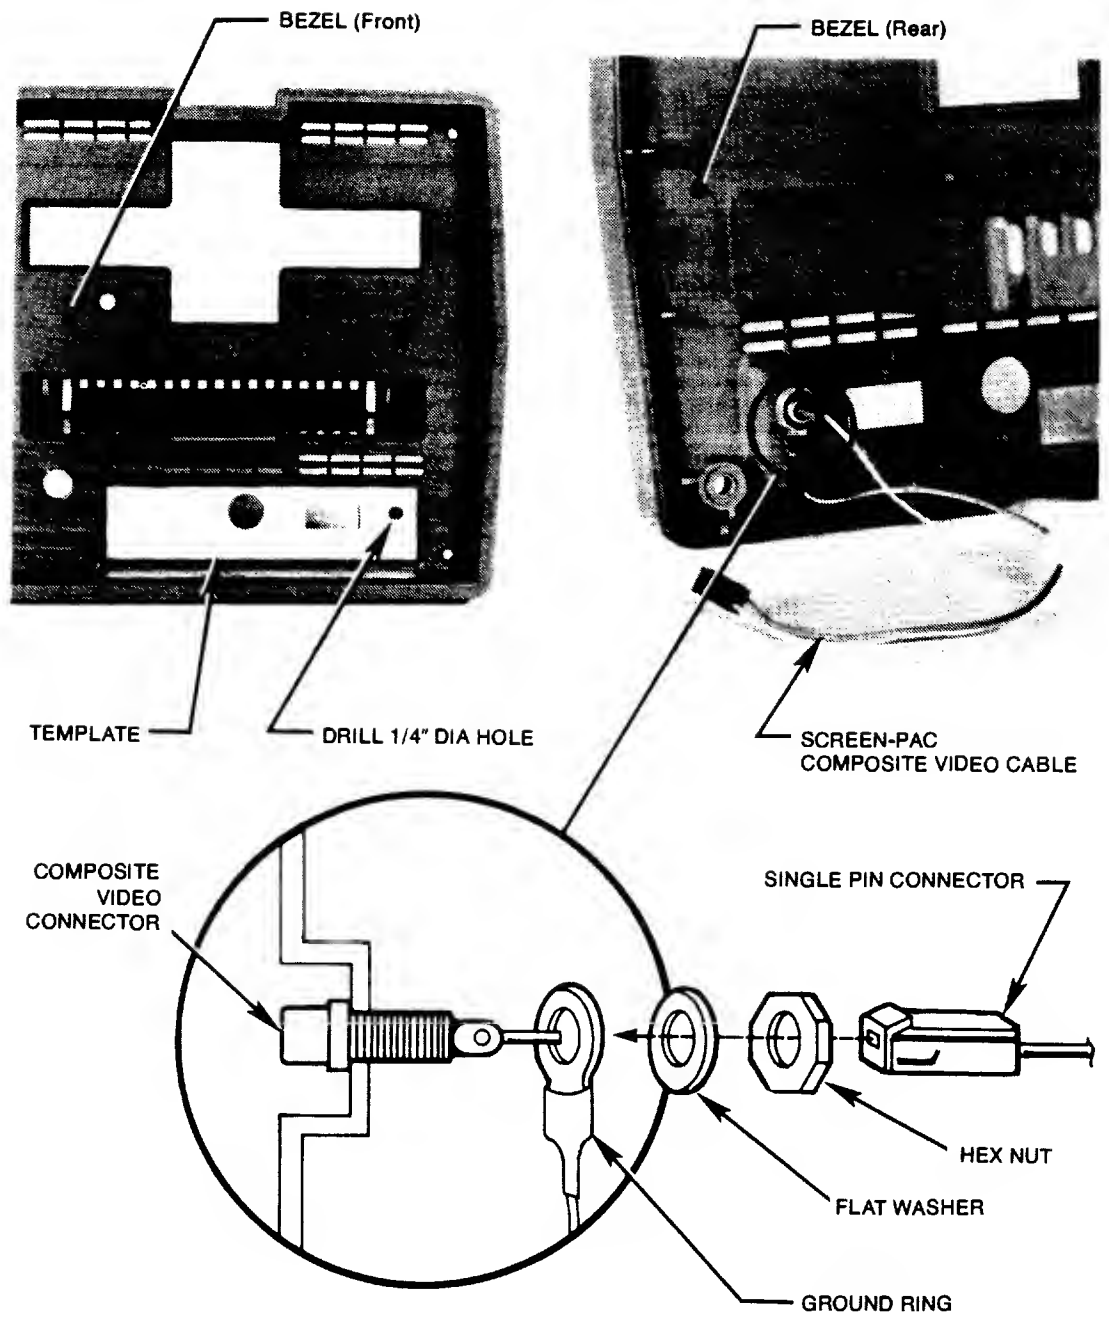

FIGURE 6-34. RCA CONNECTOR INSTALLATION
The RCA connector includes a ground ring, washer, and 7/16-inch nut to secure it to the chassis bezel (Figure 6-34).
- 6.12.4.4 The RCA video cable has two wires. The green ground wire is attached to the ground ring. The blue wire is the video signal (Figure 6-34).
- 6.12.4.6 Install the ground ring, the washer, and the 7/16-inch nut on the RCA video connector shaft. Carefully tighten the nut until the connector is securely in place (Figure 6-34).